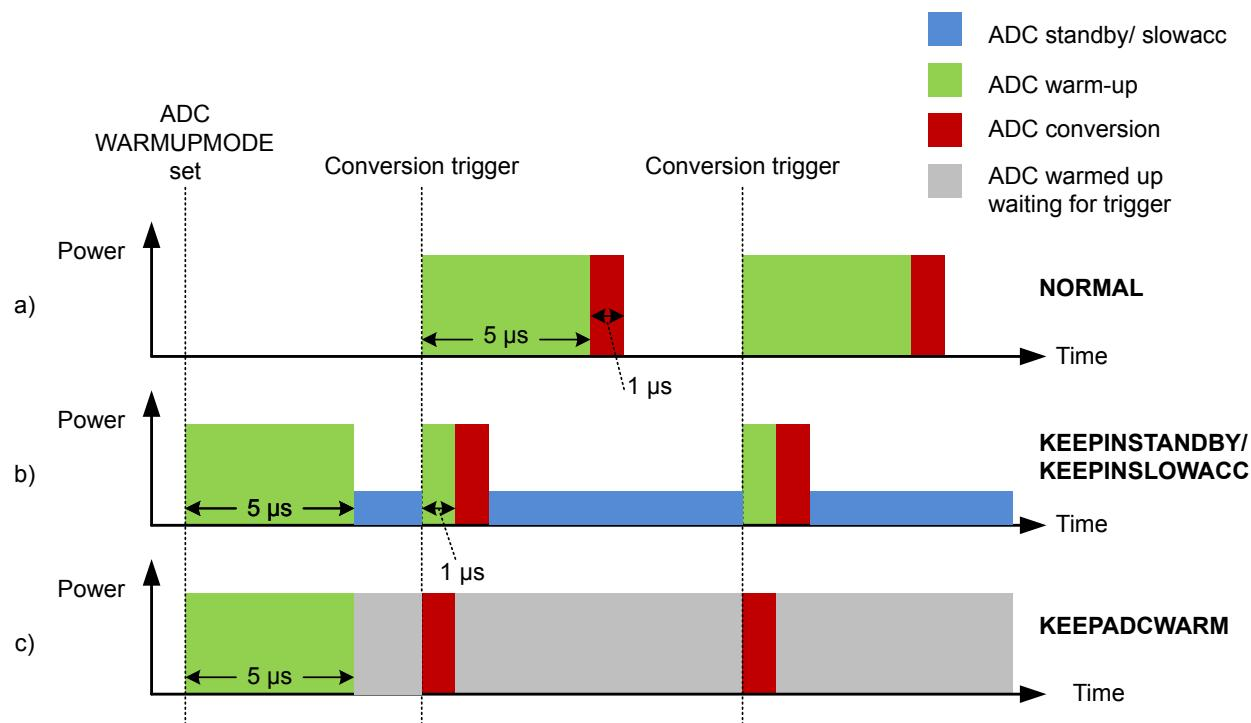

Figure 22.4. ADC Analog Power Consumption With Different WARMUPMODE Settings
Normally, the ADC will be warmed up only when samples are requested and is shut off when there are no more samples waiting. However, if lower latency is needed, configuring the WARMUPMODE field in ADCn_CTRL allows the ADC and/or reference to stay warm between samples, reducing the warm-up time or eliminating it altogether. Figure 22.4 ADC Analog Power Consumption With Different WARMUPMODE Settings on page 723 shows the effects on analog power consumption in scenarios using different WARMUPMODE settings.
- **NORMAL:** This is the lowest power option for general-purpose use and low sampling rates (below 35 ksps). The ADC and references are shut off when there are no samples waiting. The ADC does not consume any power when it is shut down. A 5 μ s warmup time will be initiated prior to every conversion. Figure a in Figure 22.4 ADC Analog Power Consumption With Different WARMUPMODE Settings on page 723 shows this mode.
- **KEEPINSTANDBY:** This mode is suitable for infrequent sampling of lower impedance inputs, and is the lowest power option for sampling rates between about 35 and 125 ksps. It may also be useful for lower sampling rates where latency is important. The reference selected for scan mode is kept warm, but the ADC is powered down. The ADC will initiate a 1 μ s warmup period before a conversion begins. Because the reference is kept warm, the ADC will consume a small amount of standby current when it is not converting. Figure b in Figure 22.4 ADC Analog Power Consumption With Different WARMUPMODE Settings on page 723 shows this mode.
- **KEEPADCWARM:** This mode provides the lowest latency and allows for maximum sampling rates. The ADC and reference circuitry remain powered on even when conversions are not in progress. Figure c in Figure 22.4 ADC Analog Power Consumption With Different WARMUPMODE Settings on page 723 shows this mode. This mode consumes the most power, but as soon as a trigger event occurs, the acquisition and conversion begin with no warm-up time.